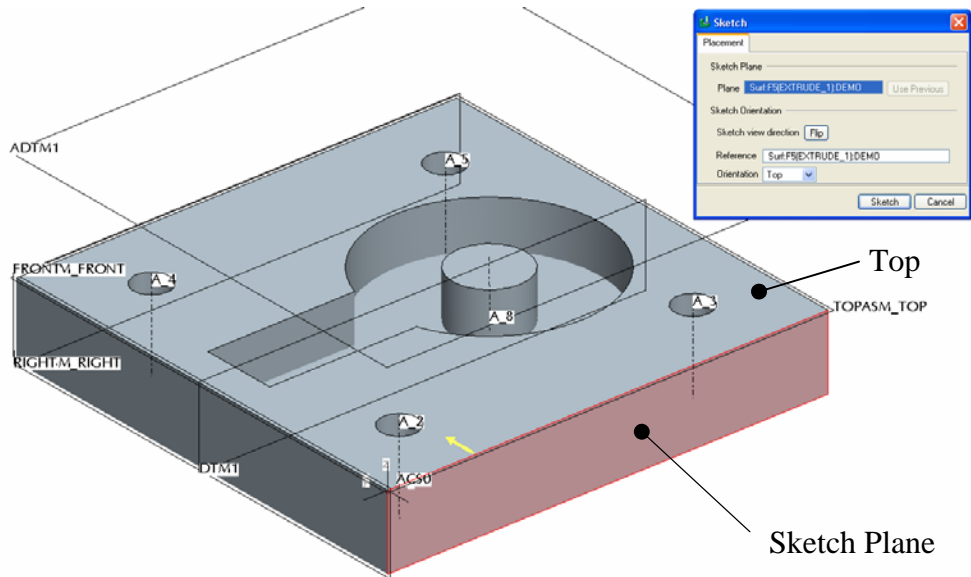

Figure 9a: Extrude Orientation.
Step 13: Select  Extrude and choose the side surface shown in Figure 9a as a sketch plane and orient the sketcher using the "Top" surface as the top.